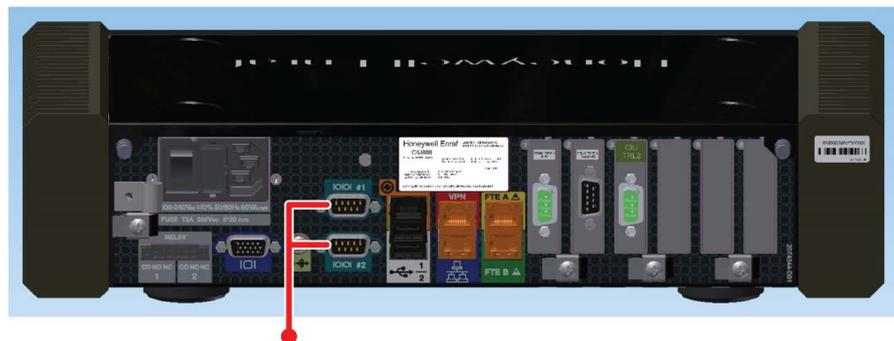

FIGURE 2-20
- One of the serial host ports located at the back using a serial cable (see FIGURE 2-20)